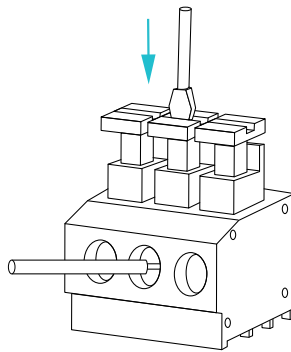

Figure 4 AcuHUM DM Push Button Terminal Block
3. To remove the wire, push in the button to open the spring, allowing the wire to be pulled out. Refer to Figure 4 for details.